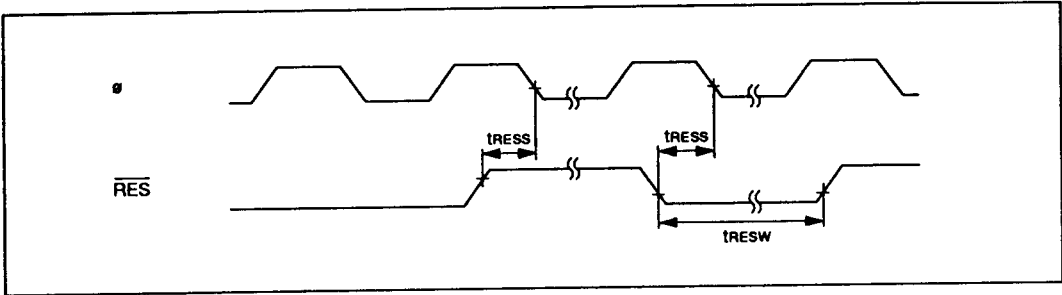

Figure 19-8 Reset Input Timing
19.3.2 Control Signal Timing	Figures 19-8 to 19-11